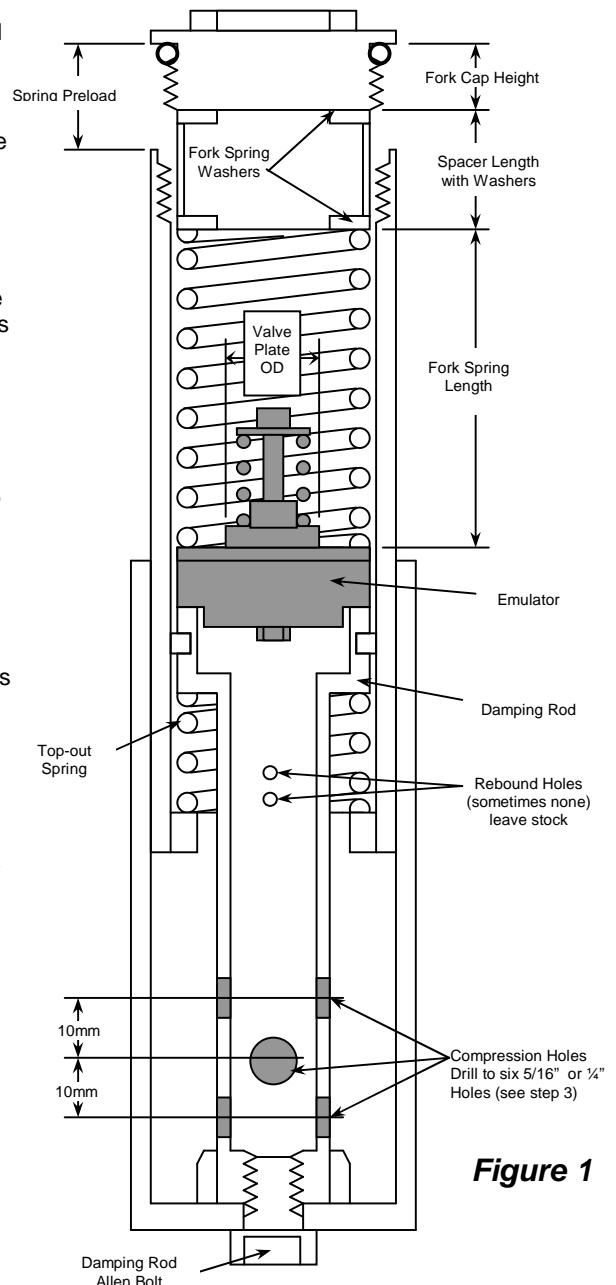
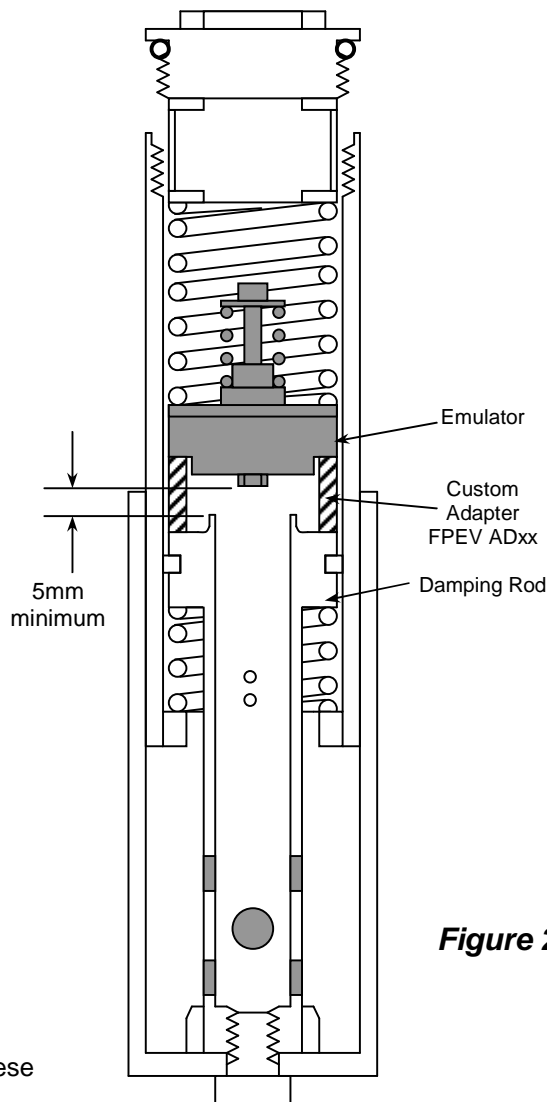

Figure 1
Figure 2
2 **Check the fit of the Gold Valve Emulator** by placing it on top of the damping rod. The step on the Emulator must sit into the large hole in the top of the damping rod and must completely cover it so there is no blow-by (figure 1).
- Check the inner diameter of the fork spring.** It must be at least 4mm (0.160") larger than the Emulator Valve Plate OD for proper flow (figure 1).
3 **Drill the existing compression holes in the damping rod to 5/16 inch (8mm) and add additional 5/16" holes so you end up with six holes (3 sets of 2 holes) (figure 1).** Any new holes will be above the existing holes. When drilling new holes, space them axially (lengthwise) at 10mm (7/16") increments. Each set of two holes must be perpendicular to the last set so as not to weaken the rod (figure 1). After drilling, chamfer and deburr the compression holes, inside and out. **Do not add or enlarge the rebound holes and leave their edges sharp if any exist.** Smaller Damping rods found in **31-35mm Vintage forks use 1/4" (6mm) holes.**
- a. Drop the Emulator down the tube. It sits on top of the damping rod with the Emulator Valve Spring facing up and is held in place with the main fork spring. Refer to figure 1. Visually check to make sure the Emulator is sitting squarely on top of the damping rod or the adapter. If you have flat-top or protruding style damping rods it requires the FPEV AD series adapters (figure 2) and they should be installed first, before the Emulator.
- c. Set the fork cap on the washer and determine the preload by measuring from the top of the fork tube to the sealing lip on the fork cap (see figure 1). This is a direct measurement of fork spring preload. Shorten the spring spacer tube to achieve the proper preload; 10-25mm based on sag and rider preference.
Adapter Height – The adapter must be tall enough to allow 5mm (0.200") clearance between the top of the hole in the damping rod and the bottom of the jam nut on the Emulator. (Figure 2) Pre-made Emulator Spacers are available: FPEV AD 3003 standard style, FPEV AD3004 custom style center